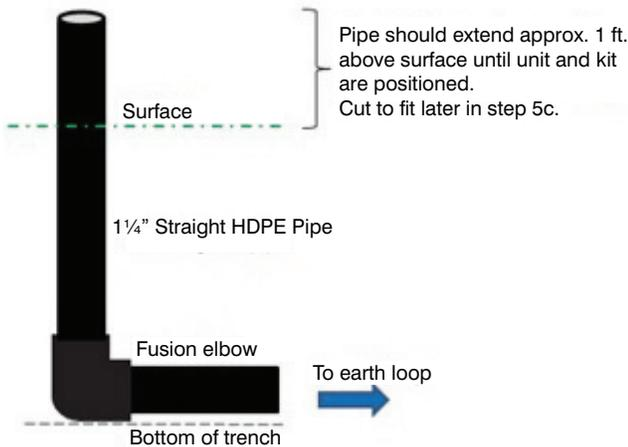

Fig. 2 — HDPE Riser Configuration (not to scale)
- b. Use straight 1-1/4" HDPE pipe for vertical section of riser to flow center. At this point, risers should extend about 1 foot (1') above finish grade. These will be cut to length in a later step below (see Fig. 2).